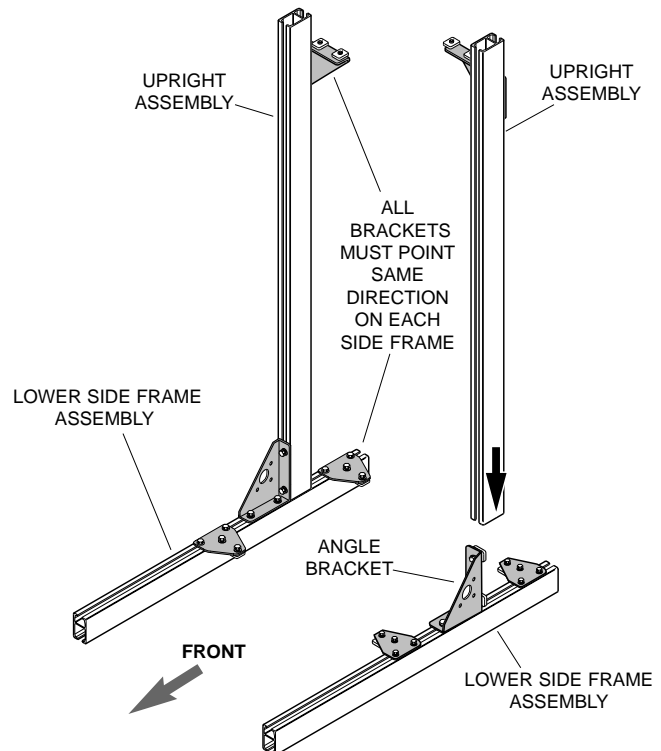

Figure 5.
5. Assemble one upright to corresponding lower side frame assembly by sliding onto angle bracket. Tighten. Repeat for other side (Fig. 5).